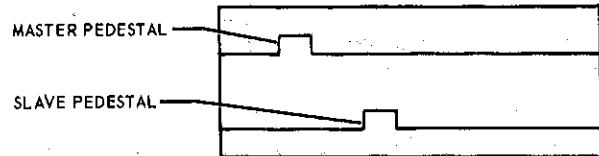

Figure 4-50. Pre-Operational Check Step 6
6. With FUNCTION switch in position 1, set DELAY switch either to R-fine or L-fine (midpositions) such that the number 5000 is preset on time difference display readout. When the number 5000 appears, set DELAY switch to OFF. The CRT display should appear as shown in figure 4-50.